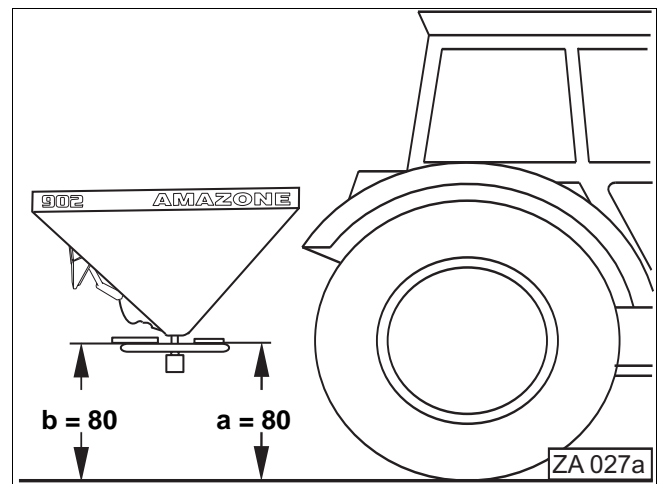

Fig. 7.1
Set the spreader with filled hopper horizontally to a mounting height of 80 cm (Fig. 7.1). Measure the distance between soil surface and spreading disc front side (80) and rear side (80).